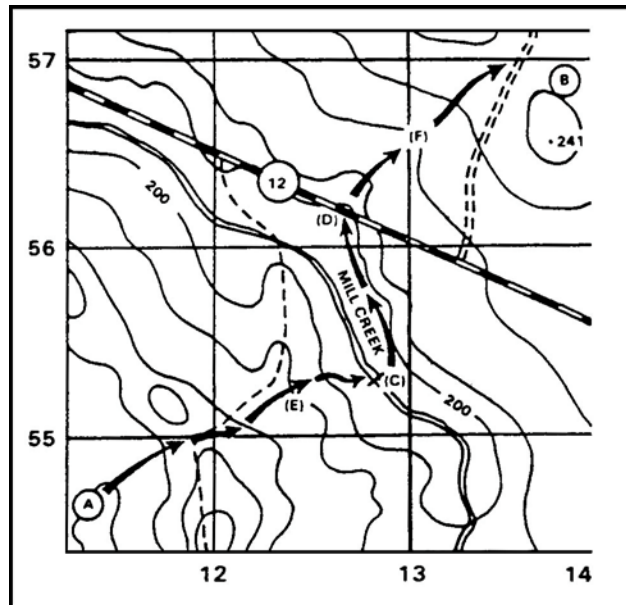

Figure 2. Adjusted route.
- (1) Tactical aspect. Avoid skylining open areas and danger areas like streams or crossings on roads and hilltops. Your tactical concern is survival. The mission is causing you to move to your objective. You need to be sure you get to that objective. Looking at Figure 2, you decide for tactical reasons to cross the stream where you would not be seen from the road (C) and to cross the road in a small valley (D). You know that valleys offer better cover and concealment, so you will use them (E) (F).